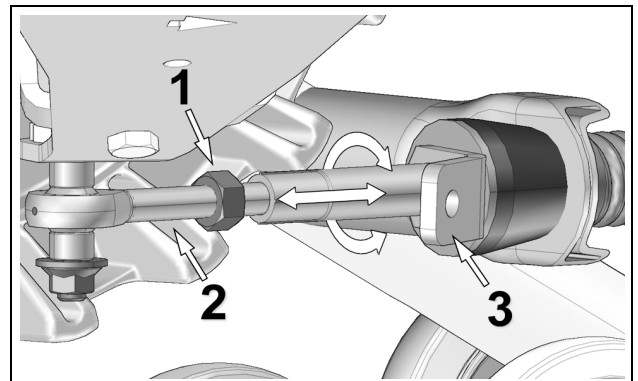

Figure 5
- Loosen jam nut (1). Adjust length of rod end (2) by rotating the steering limiter support plate on (3) the stabilizing arm. Use a 30 mm wrench to rotate support plate and obtain 270 mm above the ground. Refer to Figure 5.